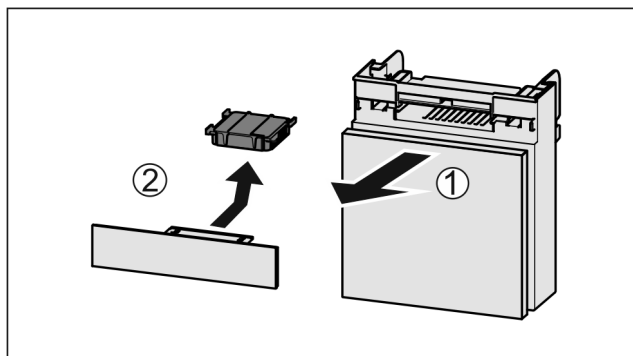

Fig. 97
- Pull out the compartment Fig. 97 (1).
- Remove the carbon filter Fig. 97 (2).